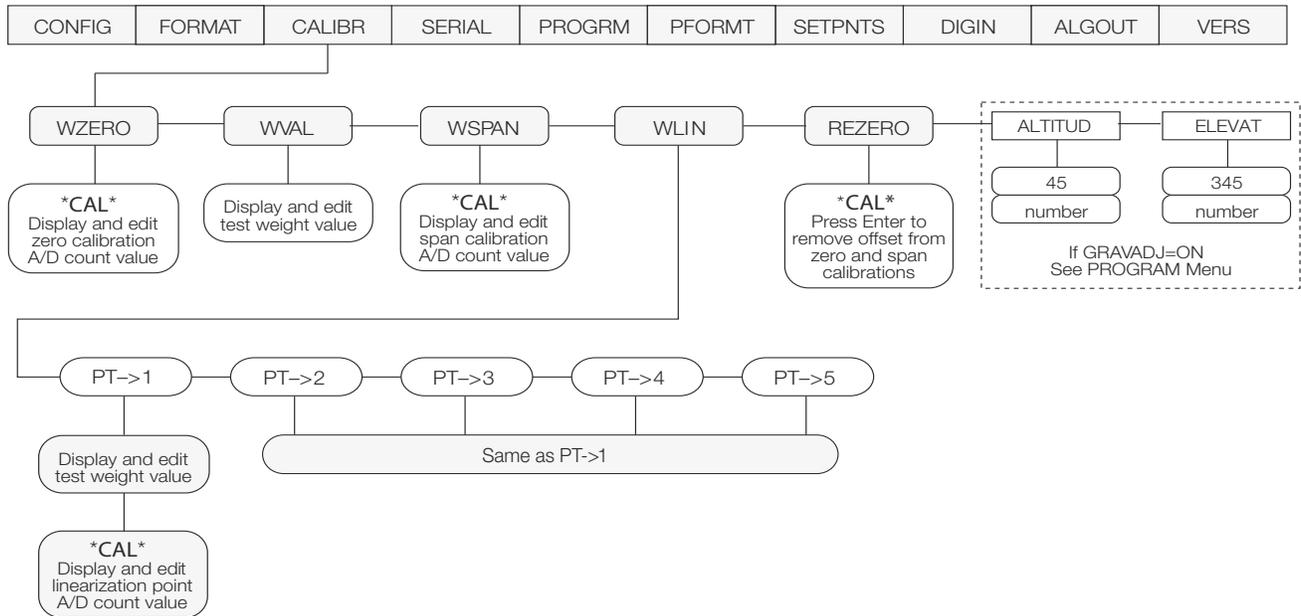

Figure 4-1. Calibration (CALIBR) Menu
2. Press  $\blacktriangleright$  until the display reads *CALIBR* (see Figure 4-1). Press  $\blacktriangledown$  to go to zero calibration (*WZERO*).
This feature is used to compensate for the variance in gravitational pull from one location to another and is available for the *520*. To calibrate with gravity compensation, the *GRAVADJ* parameter under the *PROGRM* menu must be set to *ON* (see Section 3.2.5 on page 30), and the *LATITUD* (latitude) and *ELEVATN* (elevation in meters, relative to sea level) parameters set before calibrating the indicator (see Figure 4-1 on page 40).